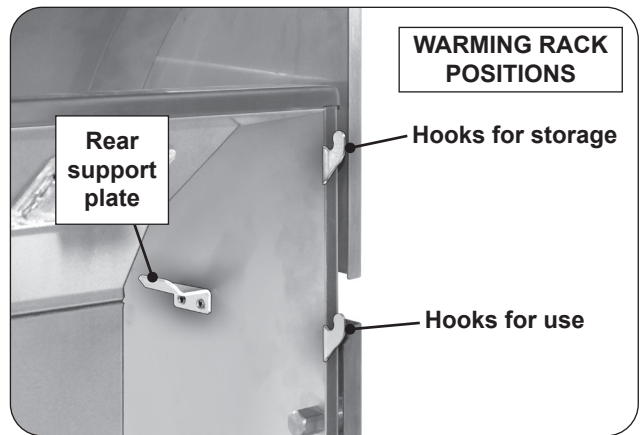
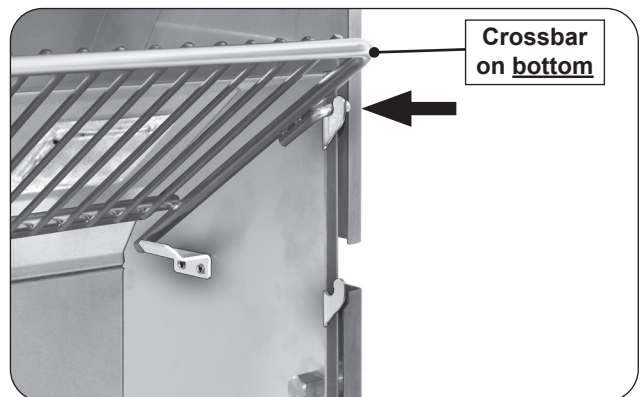

Fig. 21-1 Warming rack hooks
Fig. 21-3 Place warming rack in storage position
1. Locate the warming rack hooks and rear supports found on the upper portion of the grill oven (see Fig. 21-1).
3. Use the top hooks for storage (see Fig. 21-1 and Fig. 21-3).